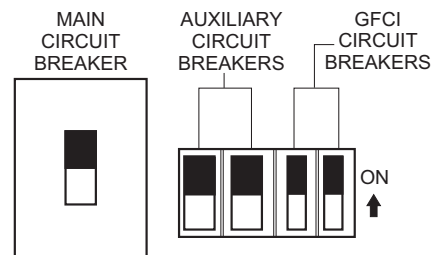

Figure 54. Main, Auxiliary, And GFCI Circuit Breakers (ON)
12. Place the **main, auxiliary, and GFCI** circuit breakers in the **ON** position (Figure 54).